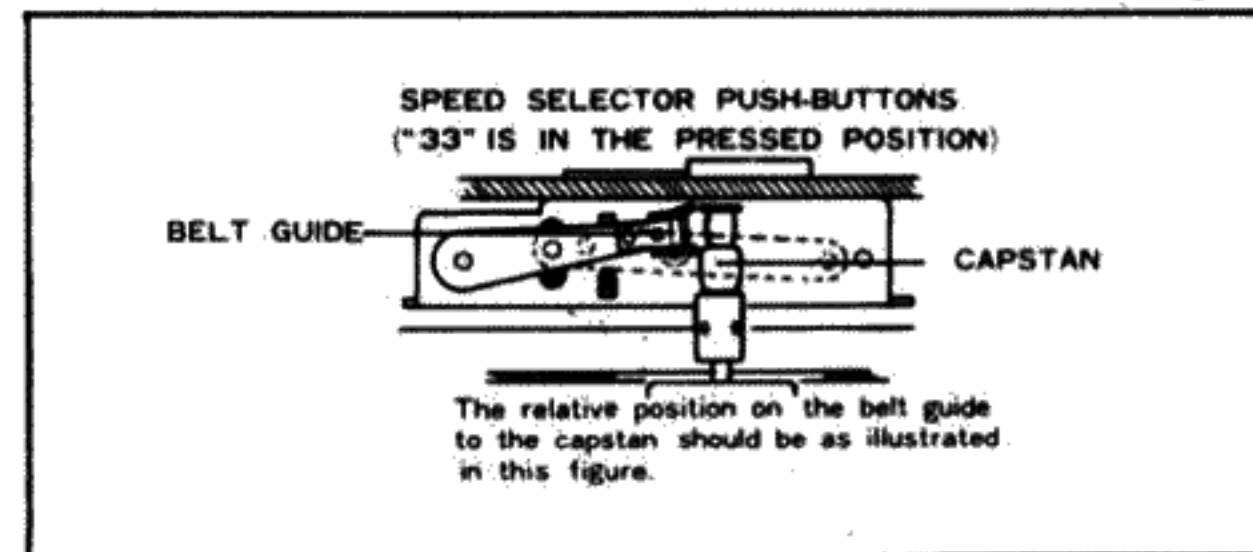

Fig. 4
- Before tightening the setscrews, set the capstan in position on the motor shaft so that the center of the belt is aligned with that of the belt guide. (Fig. 4)